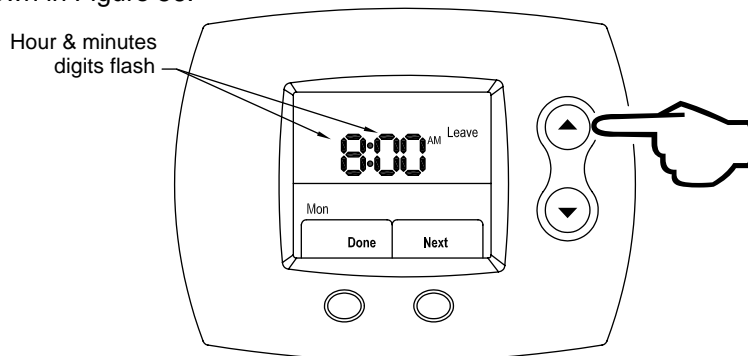

Figure 56
Step 9: Press the **UP** (increase time by 15 minutes) or **DOWN** (decrease time by 15 minutes) buttons to select the Leave period start time. The time increments in 15-minute intervals just as it did for the Wake period. This is shown in Figure 56.